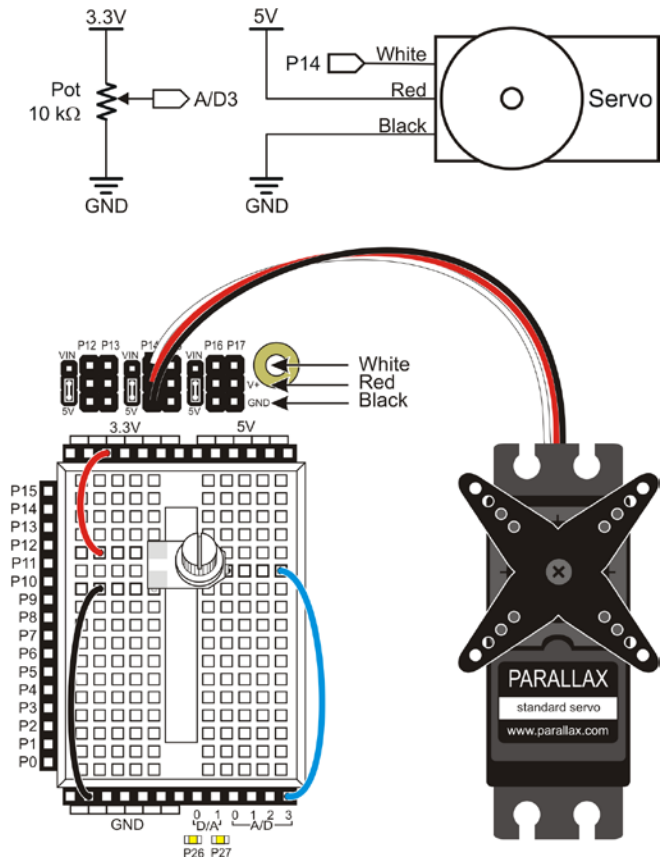

Figure 6-21
- ❑ Add your servo circuit from Chapter 4, Activity #1 as shown in Figure 6-21. Remember to connect your external power supply to the Activity Board's 6-9 V jack! (See Figure 4-4 on page 106 for power supply options.)